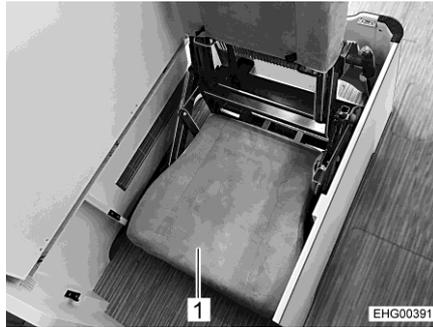

Fig. 24 Seat, lowered
- Grasp the seat (Fig. 24,1) at the front and back and swing it forward and upwards in one go.